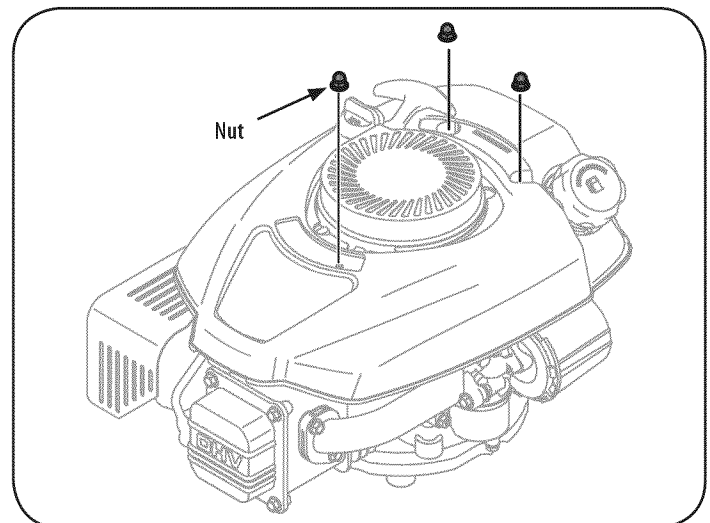

Figure 19
1. After removing the outer engine shroud, remove the nuts securing the inner shroud as shown in Figure 19.